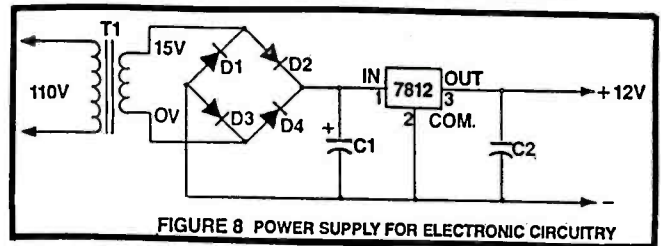

FIGURE 8 POWER SUPPLY FOR ELECTRONIC CIRCUITRY
**Power supply for the electronics:** Little explanation is needed for the fairly conventional circuit diagram shown in Fig. 8—a rectified and voltage regulated sys-
#### Power Supply for Electronic Circuitry— Fig. 8